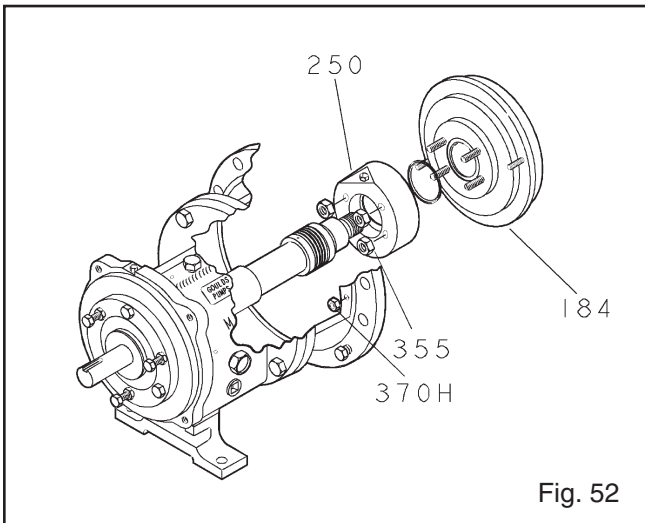

Fig. 52
- Remove the gland or seal chamber stud nuts (355).
- Remove the backplate (184) (Fig. 52).